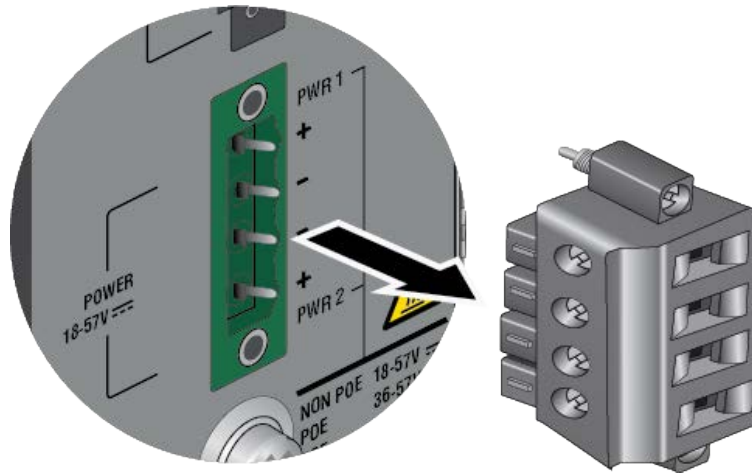

Figure 56. Removing the POWER Plug
4. Remove the POWER plug from the front panel. Refer to Figure 56.